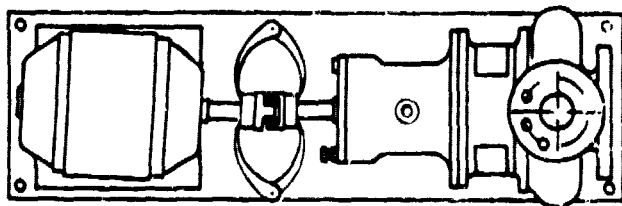
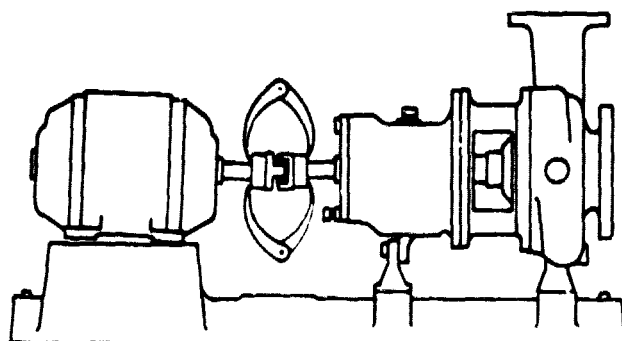

Figure 3
Figure 4
2. To check the parallel alignment of "spider-insert" couplings, place a straight edge across both hubs at four points, 90° apart (see Fig. 3). To check the parallel alignment of flexible spacer couplings, place a dial indicator on one hub and rotate that hub 360° while taking readings on the outside diameter of the other hub. Alignment occurs when indicator deflection does not exceed .002" T.I.R. (see Fig. 4) of the recommended cold setting in elevation and not more than .002" T.I.R. side to side.